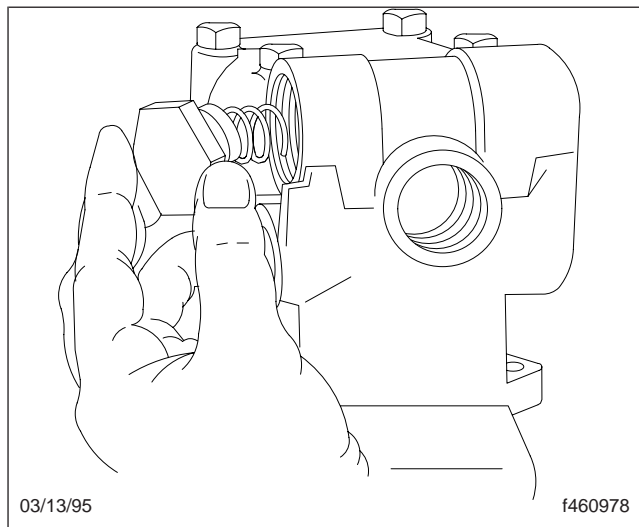
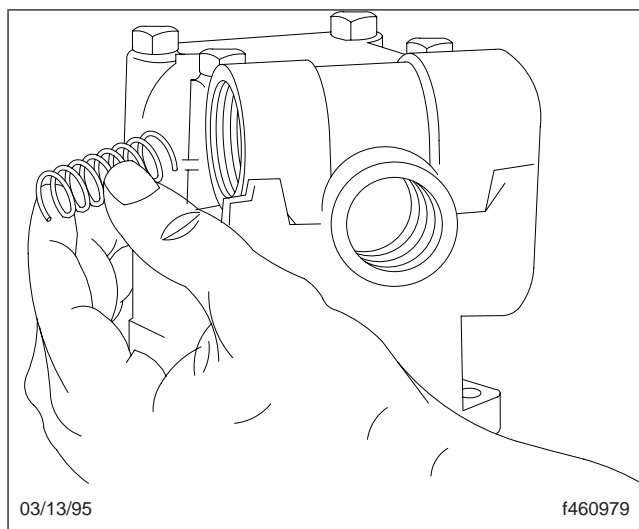

Fig. 2, Removing the End Plug
Fig. 3, Removing the Spring
2. Carefully remove the end plug from the pump housing. See Fig. 1 and Fig. 2. Remove the spring, if it didn't come out with the end plug. See Fig. 3.